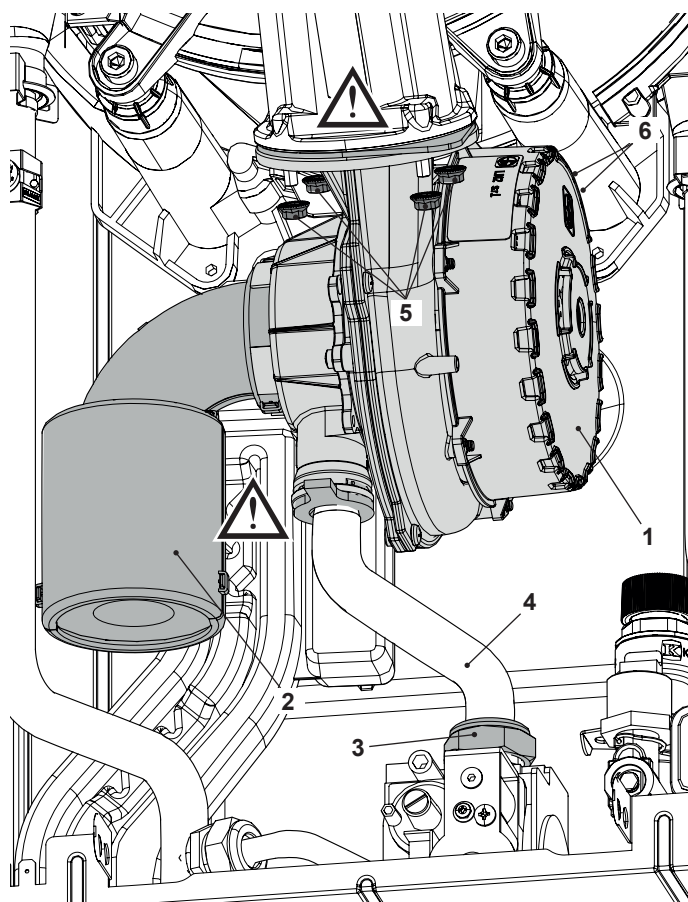

Figure 14.2
- 3 Unscrew the gas connector "3" and remove the gas pipe "4" (Figure 14.2).
Before reassembling ensure the fan gasket (Figure 14.2) is correctly mounted.